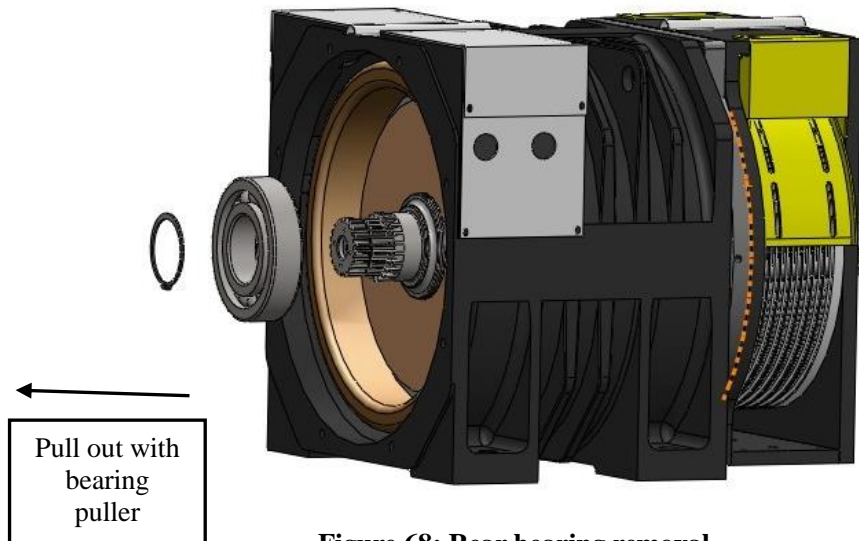

Figure 68: Rear bearing removal
7. Take off the retainer ring 90 with the retainer ring plier then take off the bearing (6318-DDU) with the Owatonna (bearing) puller. (It is permissible to cut the bearing off.) See Figure 68.